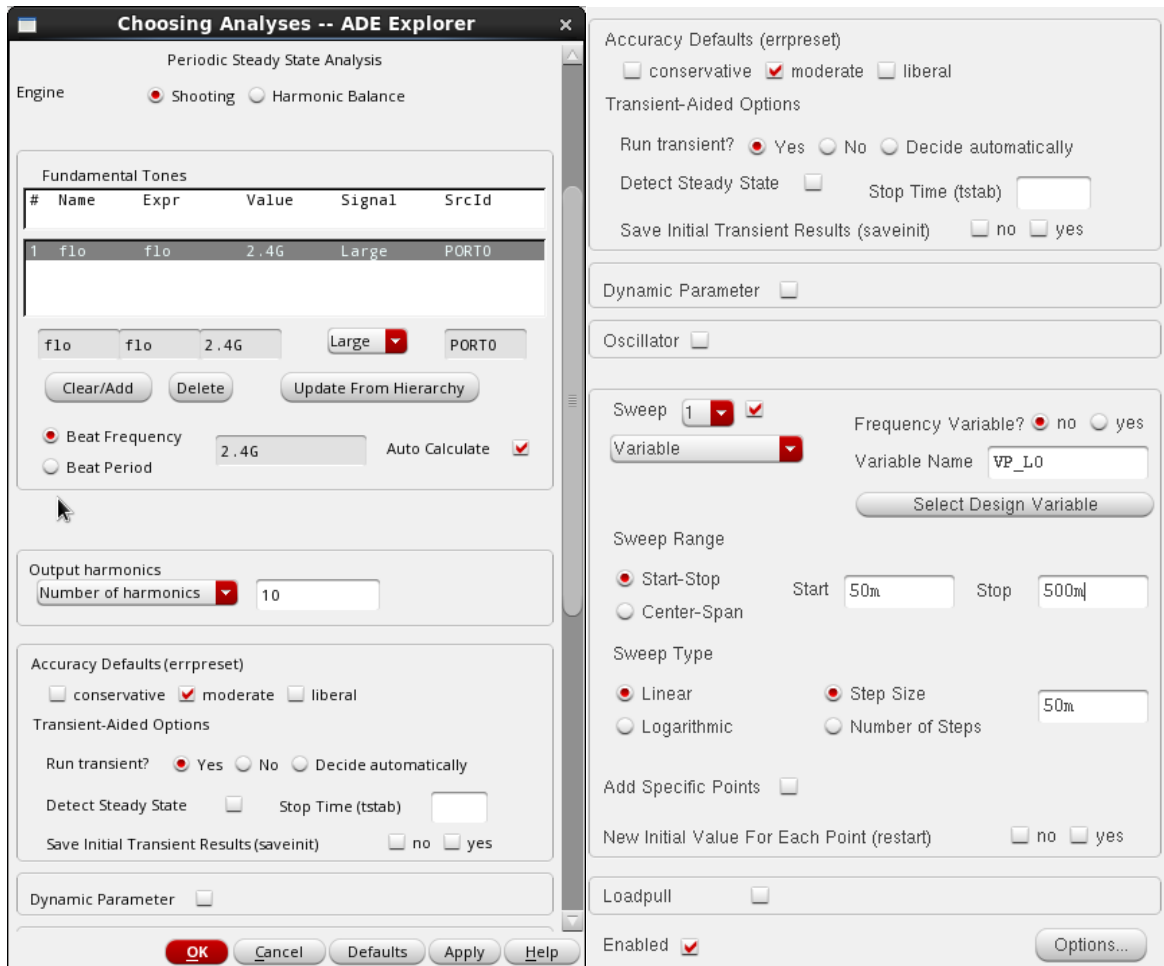

Fig. 24
- Configure the PSS simulation form as depicted in Fig. 24.